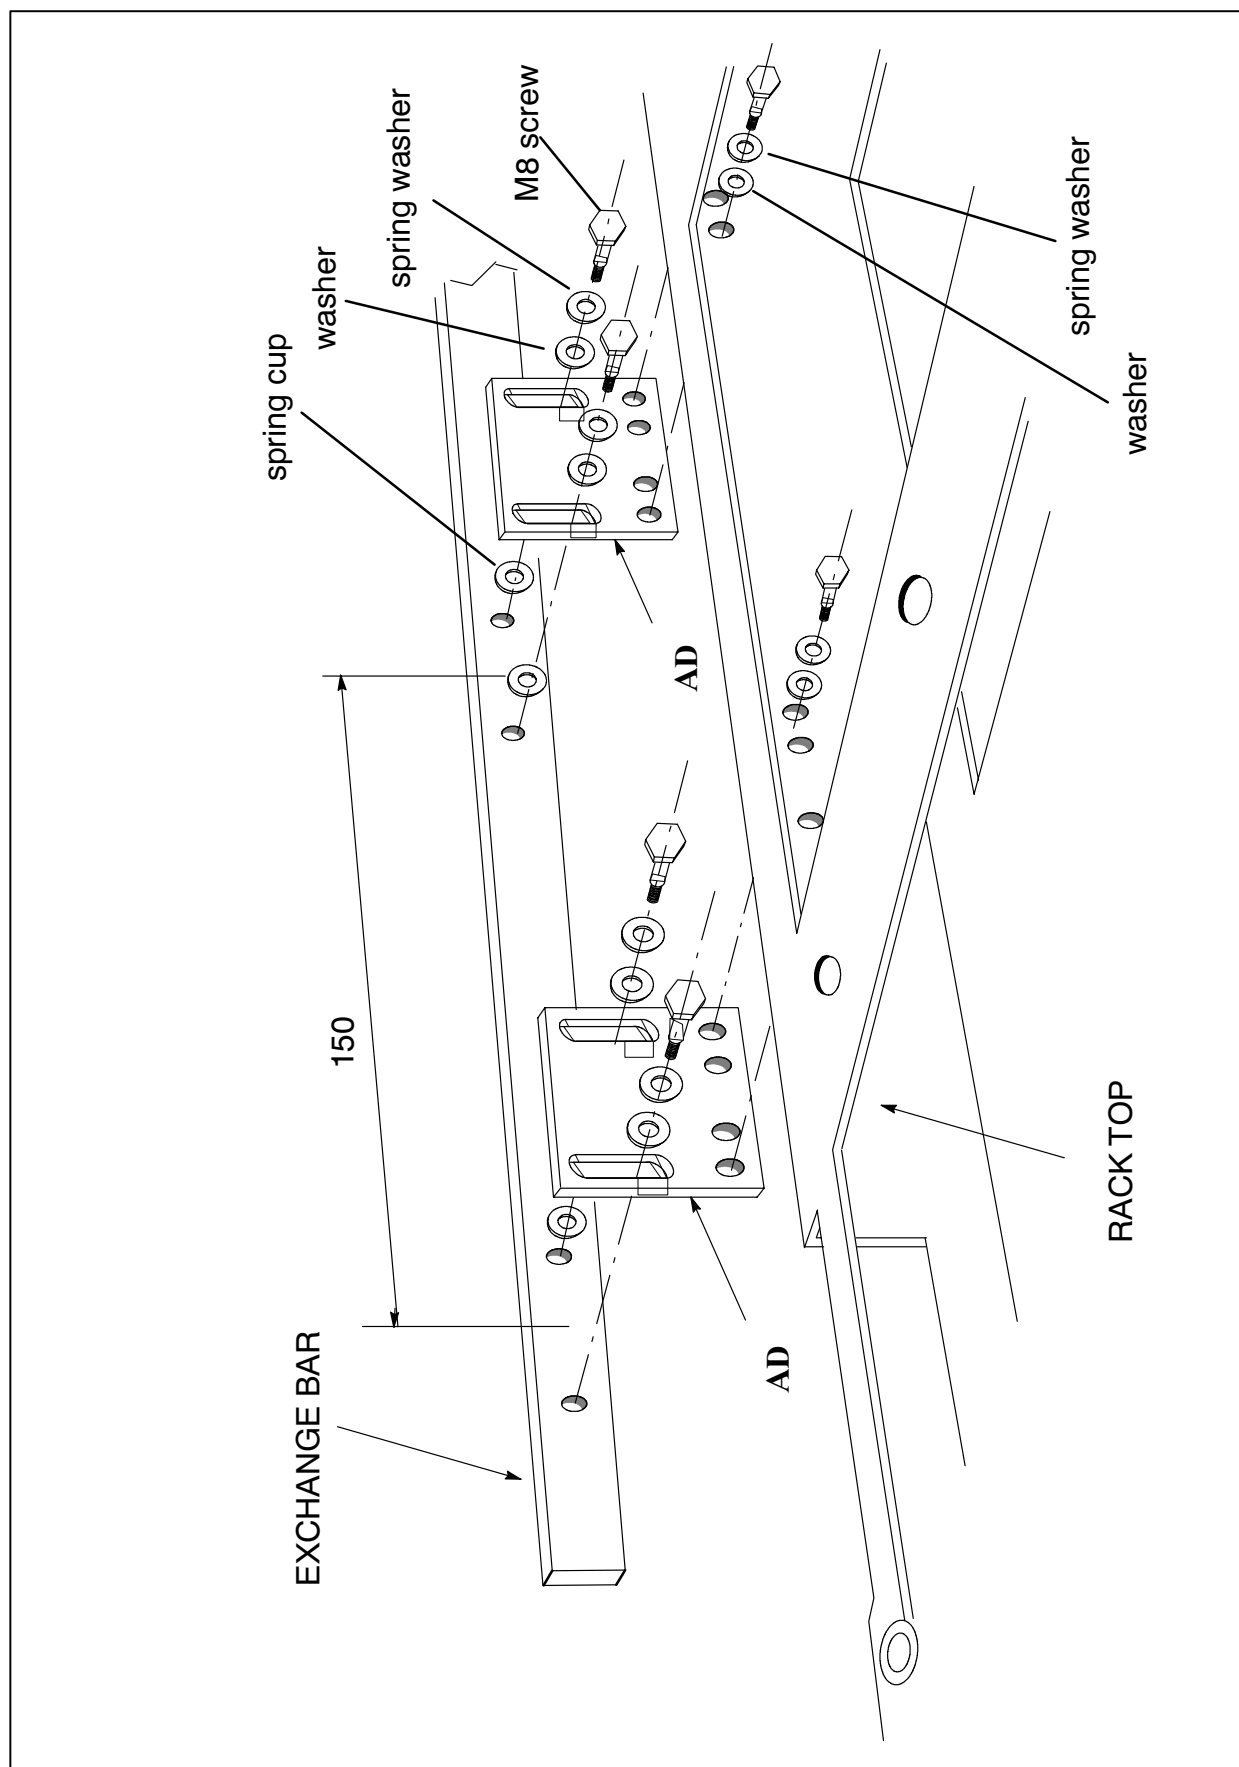

Fig. CC-12 Fastening the rack to the exchange bar
1. Fit two 6x10mm screws with 6.4x11mm spring washers into the holes at the back of the rack top and into two holes (odd or even) of each fixing plate (Fig. CC-12).